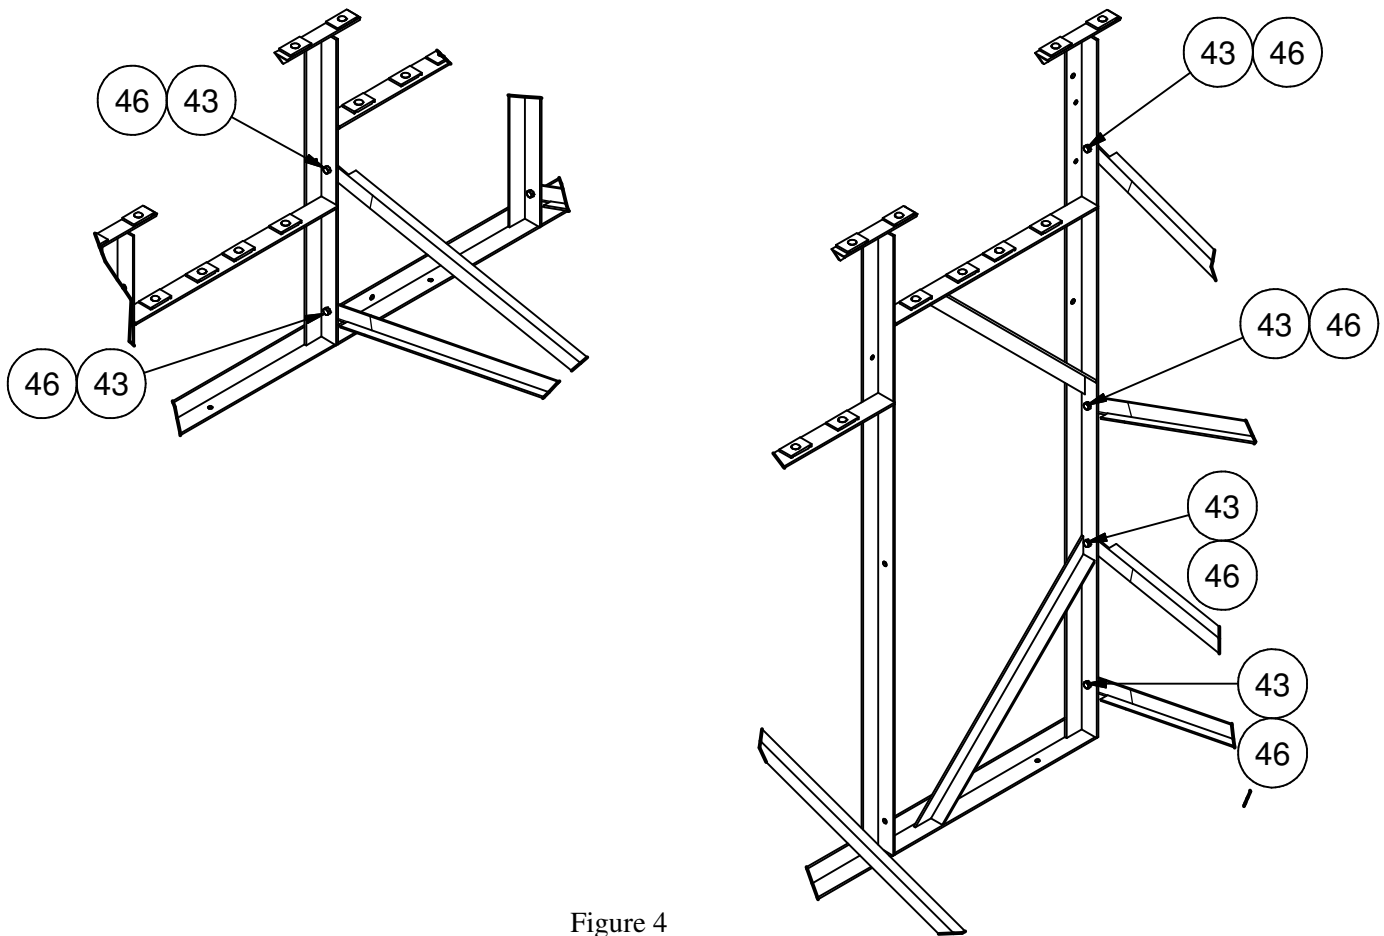

Figure 4
3. Lay out the Frame weldments approximately 6' apart. Refer to figure 3 for proper frame spacing. Install the brace sub-assemblies from step 2 using the 3/8" x 1" hex bolts and 3/8" whizlock nuts as shown in Figure 4. Cross braces are connected to the frames at verticals 3,4,6, and 8. Refer to figure 3 for item number and page 2 for brace angle length. NOTE: Cross braces are located in the end bays. Straight spacer braces are located in the center bay at row 3 and row 8 only. After all braces are installed, square the frame and make sure the front of the frame is in line.